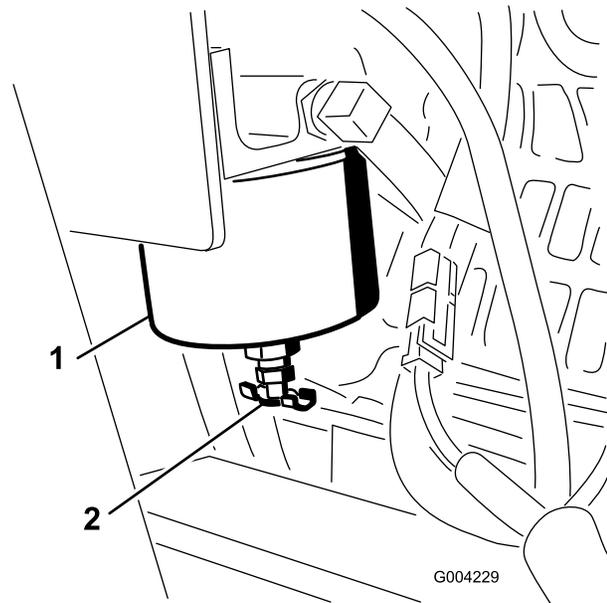

Figure 30
Drain water or other contaminants from the fuel filter/water separator (Figure 30) daily.
1. Locate the fuel filter on the right side of the engine (Figure 30) and place a clean container under it.
1. Clean the area where the filter canister mounts (Figure 30).
2. Remove the filter canister and clean the mounting surface (Figure 30).
4. Install the filter canister by hand until the gasket contacts the mounting surface, then rotate it an additional 1/2 turn (Figure 30).